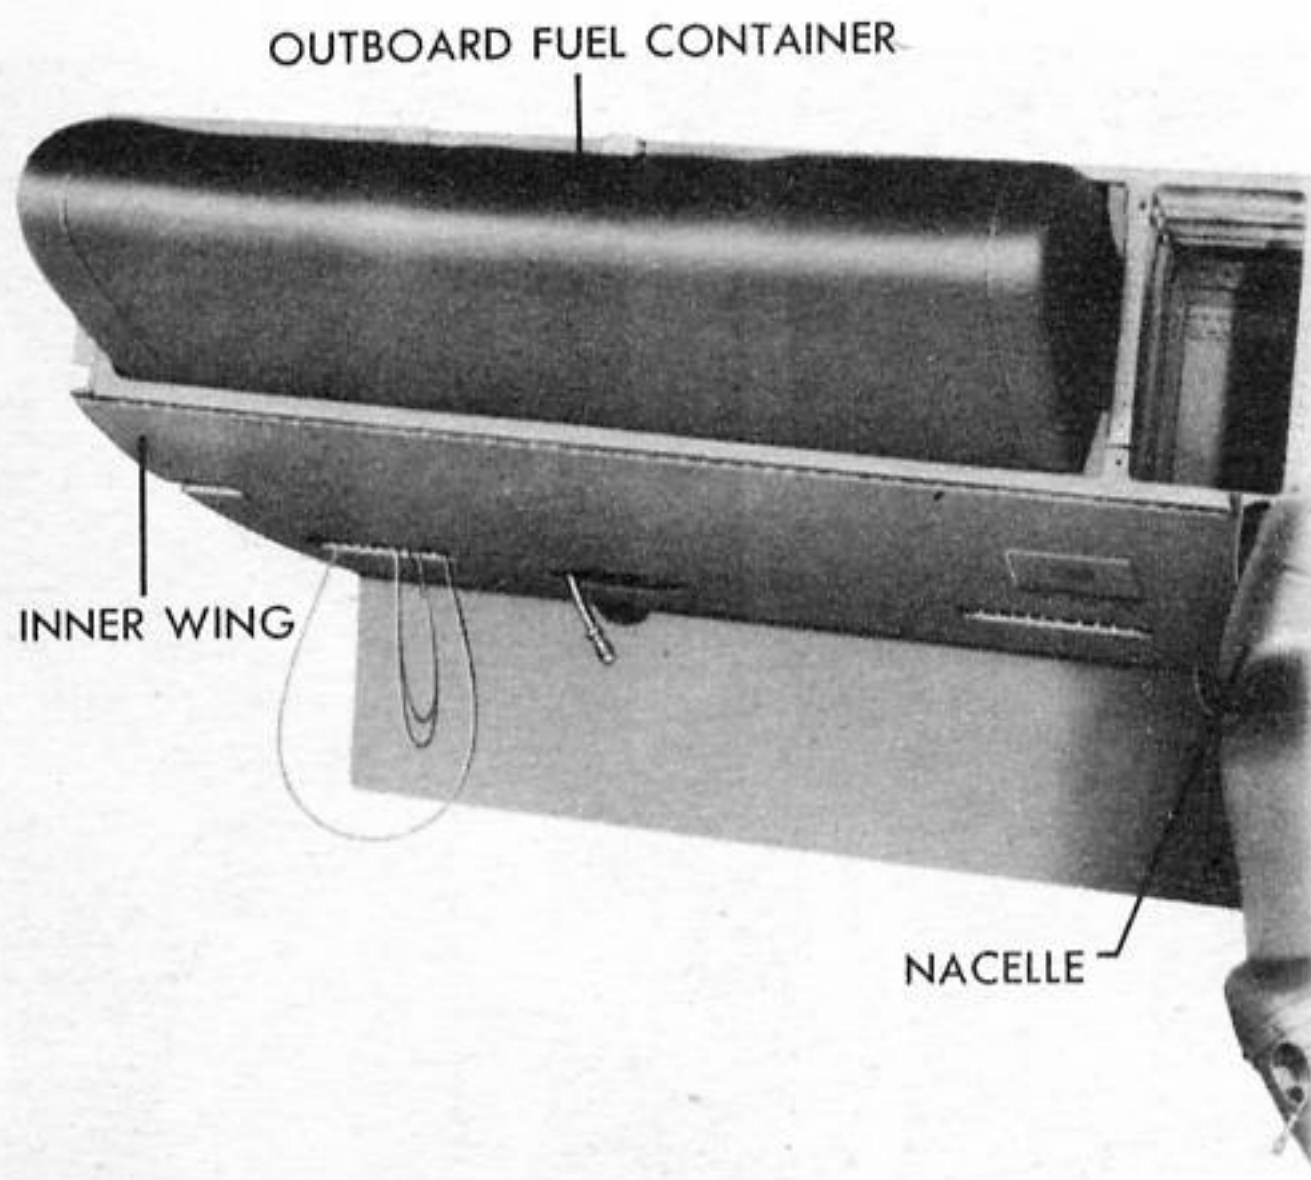

Figure 151 - REMOVING OUTBOARD FUEL CONTAINER
(2) REMOVAL OF OUTBOARD FUEL CONTAINER. (See figure 151.)